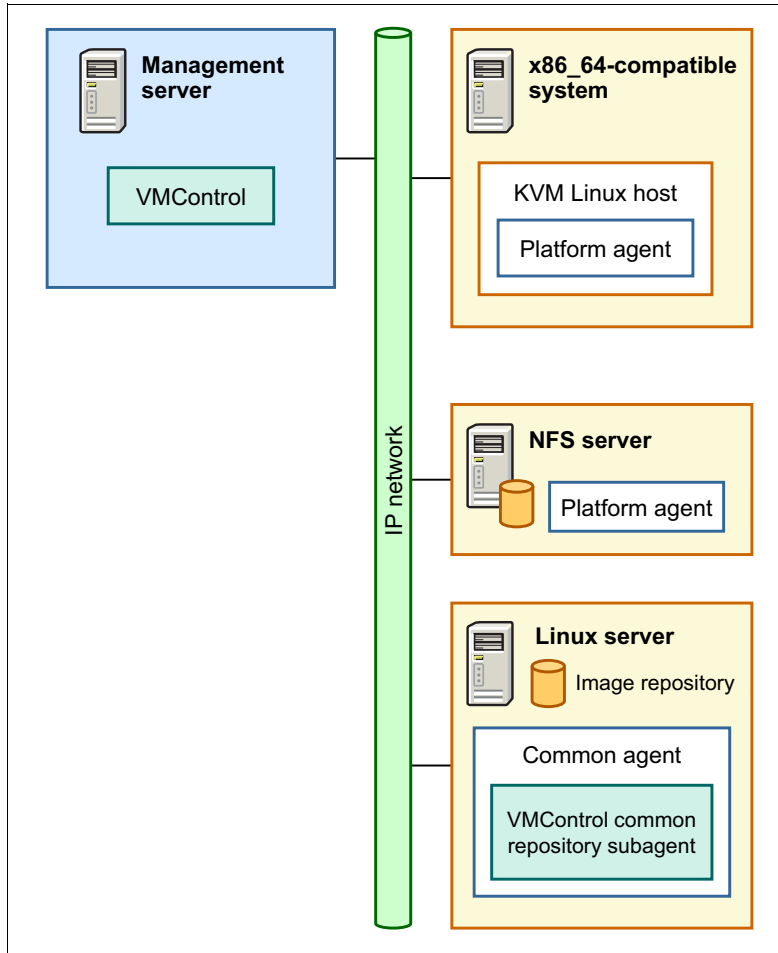

Figure 5-4 KVM virtual environment with NFS storage
- ▶ An NFS x86_64 Red Hat Enterprise Linux (RHEL) server is set up and configured. Figure 5-4 shows the KVM virtualization environment with NFS storage.